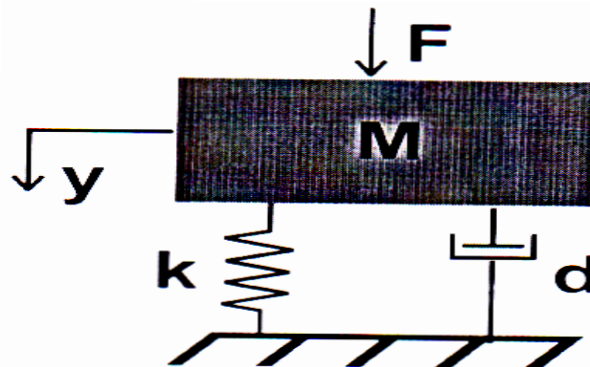

Figure 2
- Q7)** a) For the system in Figure 2, assume $M = \text{mass} = 1\text{kg}$, $k = \text{stiffness} = 2\text{ N/m}$ and $d = \text{damping} = 0.5\text{ Ns/m}$. Also, $F = \text{force input in N}$ and $y = \text{displacement output in m}$. [10]